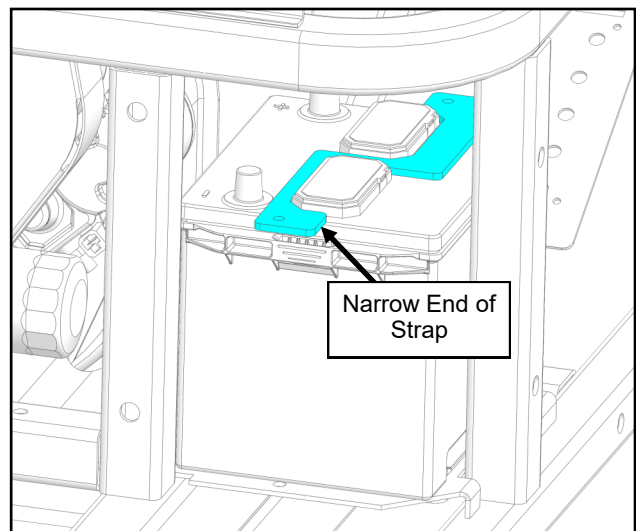

Fig. 2.2 (Install Battery Hold Down Strap)
- 2.2 Place battery mounting strap onto battery with narrow side of strap on the negative terminal side as shown in figure 2.2.